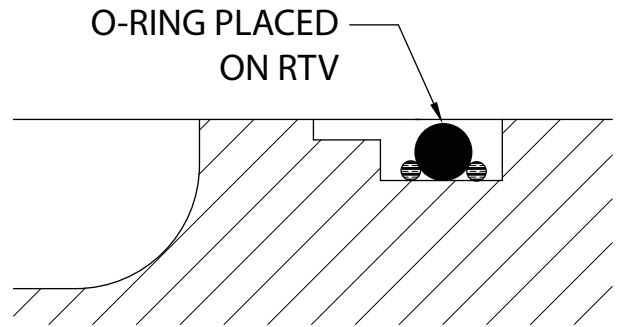
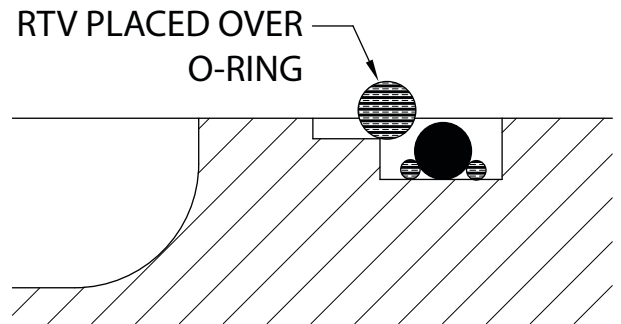

Figure 16
Figure 17
4.5.6.4 Install the O-rings (I.D. and O.D.) on top of the sealant, working them into position so that they lay flat in the bottom of the groove. See Figure 16. A second bead of sealant 0.060" - 0.090" (1,5 mm - 2,3 mm) in size should then be applied in the shallow groove. See Figure 17.